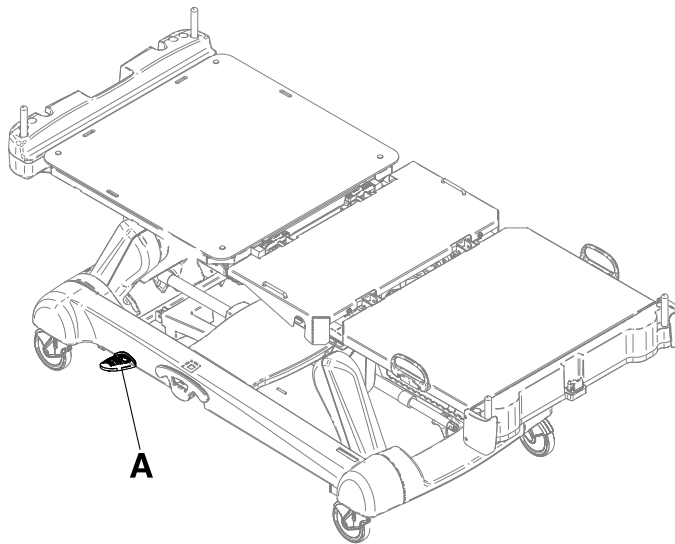

Figure 9: CPR release pedal
Two instant CPR release pedals are located at the head end section on both the left and right sides of the litter (A) (Figure 9 on page 25).